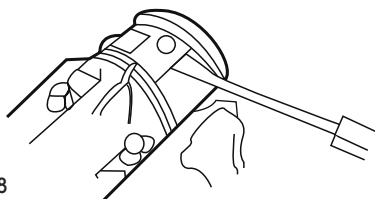

Figure 8
3. Use a screwdriver to snap off the clamp. (See Figure 8)